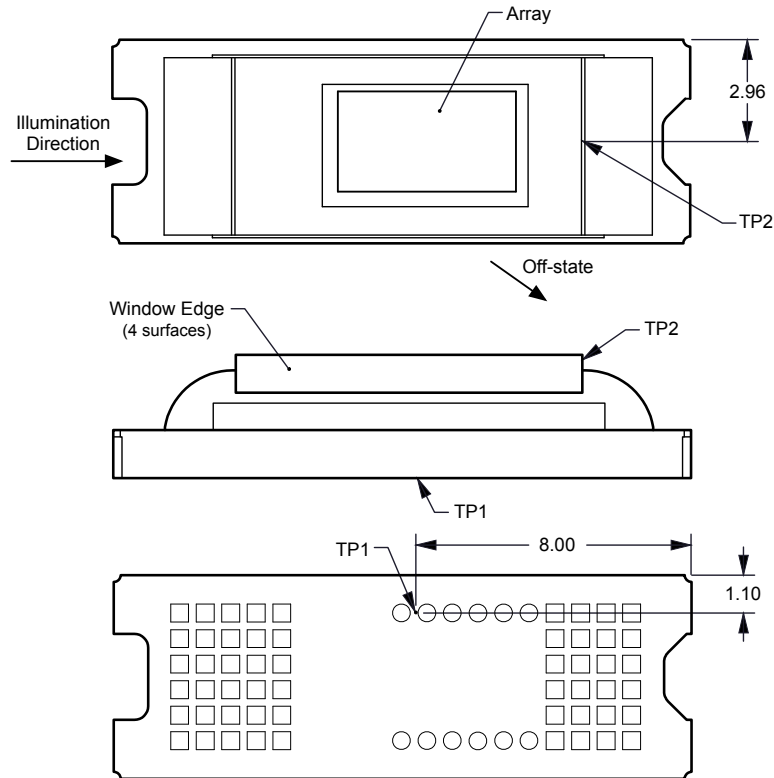

Figure 8-1. DMD Thermal Test Points
Micromirror array temperature cannot be measured directly, therefore it must be computed analytically from measurement points on the outside of the package, the package thermal resistance, the electrical power, and the illumination heat load. The relationship between array temperature and the reference ceramic temperature (thermal test point TP1 in Figure 8-1) is provided by the following equations:
- T_{CERAMIC} = Measured ceramic temperature ($^{\circ}\text{C}$), TP1 location in Figure 8-1
- Q_{ARRAY} = Total (electrical + absorbed) DMD power on array (W)
- $Q_{\text{ELECTRICAL}}$ = Nominal DMD electrical power dissipation (W)